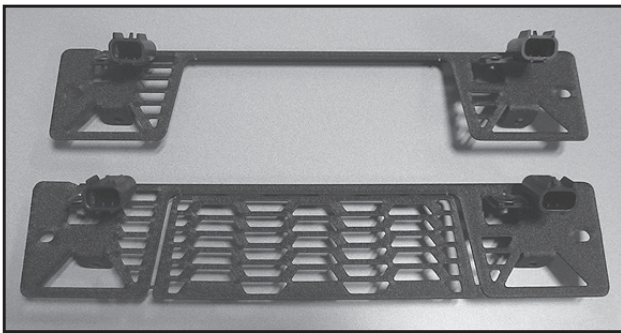

Figure 15
3. Remove the protective cap from the P/N 2412369 control harness (#3) and secure it to the right hand side of the P/N 5257056 grille with the P/N 7621472 rivet (#5). The P/N 5257056 grille can be found in the P/N 2879105 mount kit. If the unit has a winch the insert will need to be removed from the grille by clipping the tabs as shown in *figure 15*.